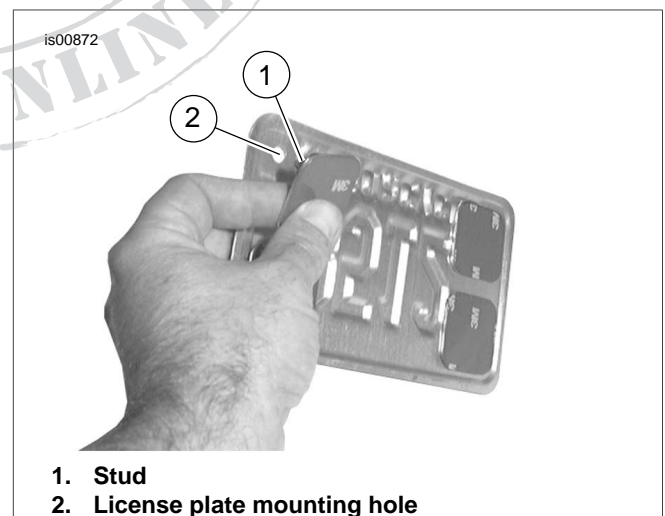

Figure 5. Align Studs to Outside Corners of License Plate
40. See Figure 5. From the back side, install the stud (1) of a stud plate through each of the mounting holes in the license plate.